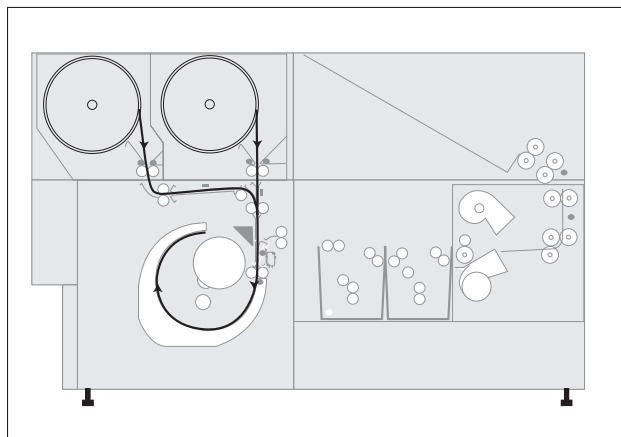

Fig. 4
1. The plate is fed from the selected cassette into the imagesetting drum by the input rollers, fig. 4.